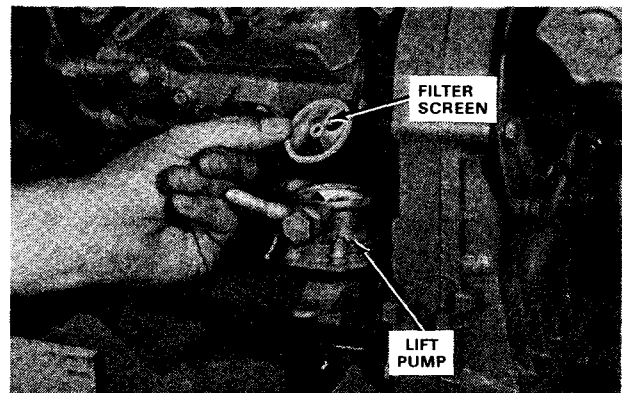

FIG. 24 Removing Lift Pump Filter Screen (SSD-327 and SSD-437)
3. Remove the filter screen from the lift pump (Fig. 24). Wash the filter screen in clean diesel fuel oil and remove all particles of dirt from the screen.